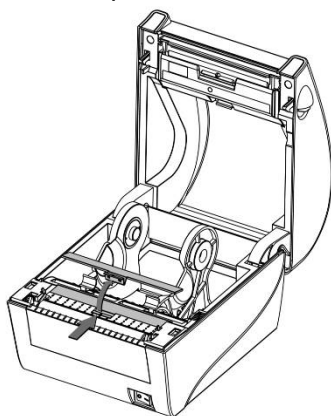

Figure 3.4-1
direction of the arrow, and turn the sensor cover board upward to take it off (see figure 3.4-1);
- 2) Push the part with arrow on the sensor cover board in the direction of the arrow, and turn the sensor cover board upward to take it off (see figure 3.4-1);